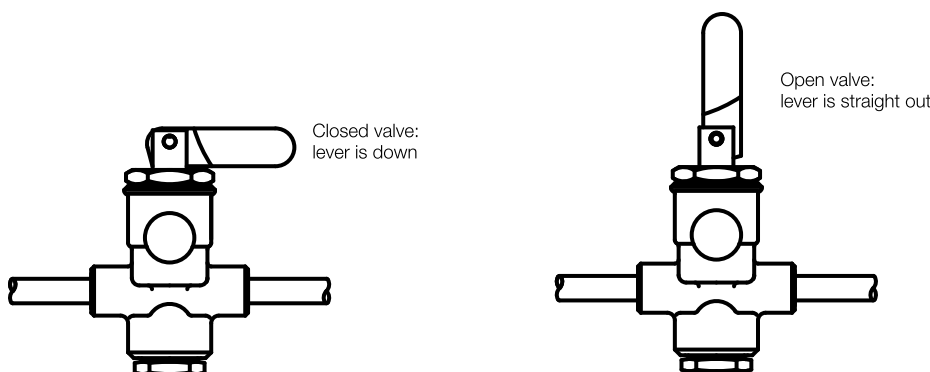

Figure 5. Operating Lever Positions
4. Make sure the lever is straight out on the 1/4" operating valve in the line between the pump discharge line and the Flomatic® valve (Figure 5). If it isn't, the Flomatic® valve will remain closed.